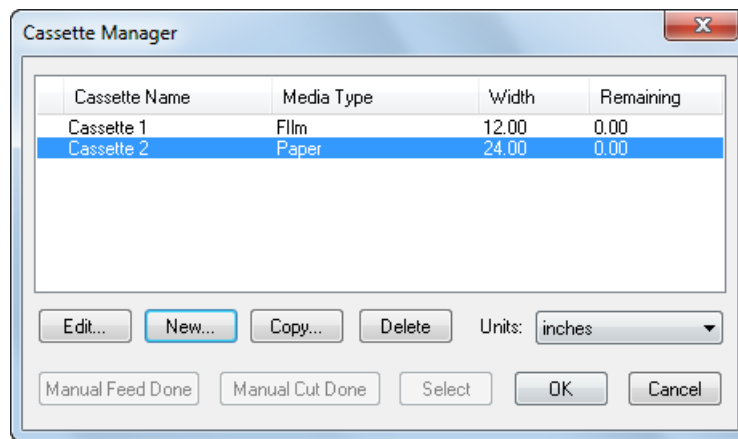

Figure 9.4 Cassette Manager dialog box
Before processing any jobs, you need to tell the RIP about the cassettes you are using and give details of the media currently in each cassette. You do this from the Cassette Manager dialog box. Click the **Cassette Manager** button in the Edit Page Setup dialog box or choose **Output > Cassette Manager** to open the Cassette Manager dialog box, as shown in Figure 9.4.
- If you perform a manual operation by using controls on the output device, you must inform the RIP. Display the Cassette Manager and click the button **Manual Cut Done** or **Manual Feed Done** whenever you perform the corresponding manual operation. See Figure 9.4, page 250, and the following description of the buttons.